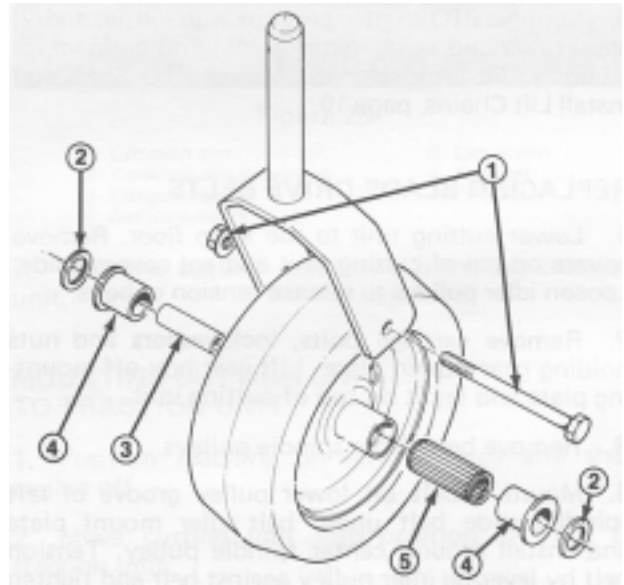

Figure 31
1. Remove the capscrew and locknut holding the castor wheel and 2 washers between the castor fork (Fig. 31).
2. Pull the spanner bushing out of the wheel hub (Fig. 31).
3. Remove the bushing from the wheel hub and allow the bearing to fall out (Fig. 31). Remove the bushing from the opposite side of the wheel hub.